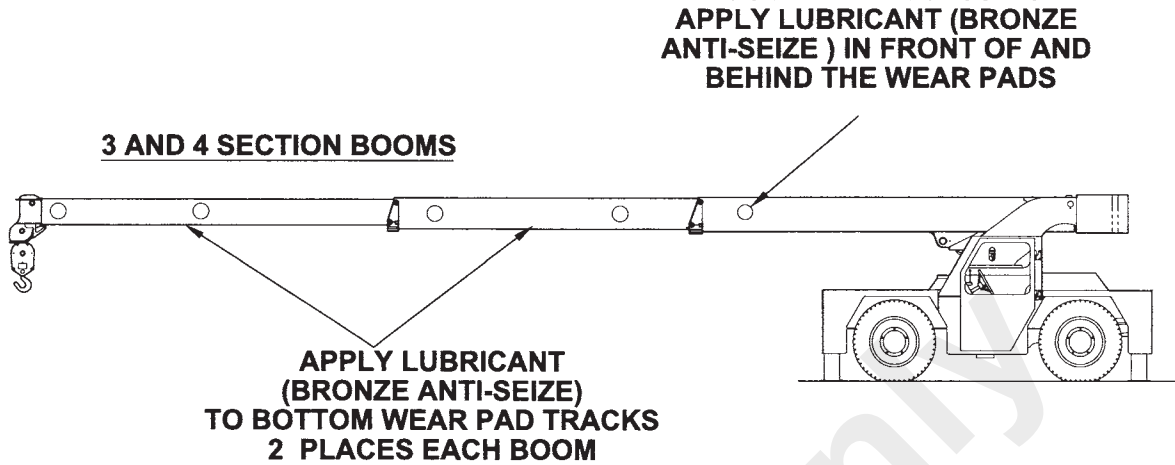

FIGURE 6-23
4. Apply bronze anti-seize, or equivalent, to the boom sliding surfaces (Figure 6-23) on the boom sections. Only use a small amount of lubricant for best results.
5. On four-section booms only, align the boom access holes (Figure 6-23) to gain access to the telescope cylinder rod end slide pad.